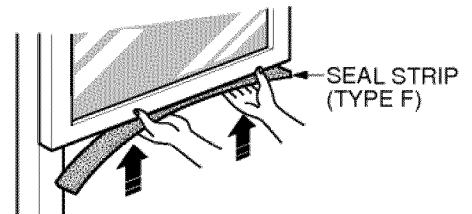

Fig. 6
2. Cut the adhesive-backed seal strip (TYPE F) to the window width. Remove the backing from the seal strip and attach the seal strip to the underside of the bottom window. (Fig. 6)